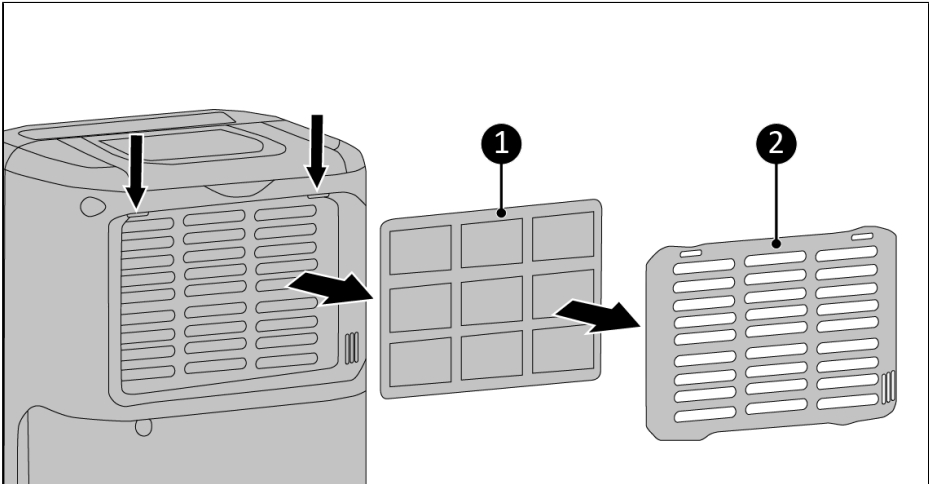

Figure 20.
2. Remove the frame (Figure 20, pos. 2).
3. Remove the filter holder (Figure 20, pos. 1).